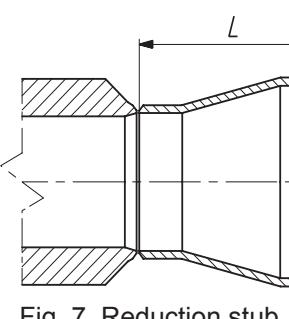

Fig. 7. Reduction stub
-) - execution with reduction stubs as per Fig. 7.